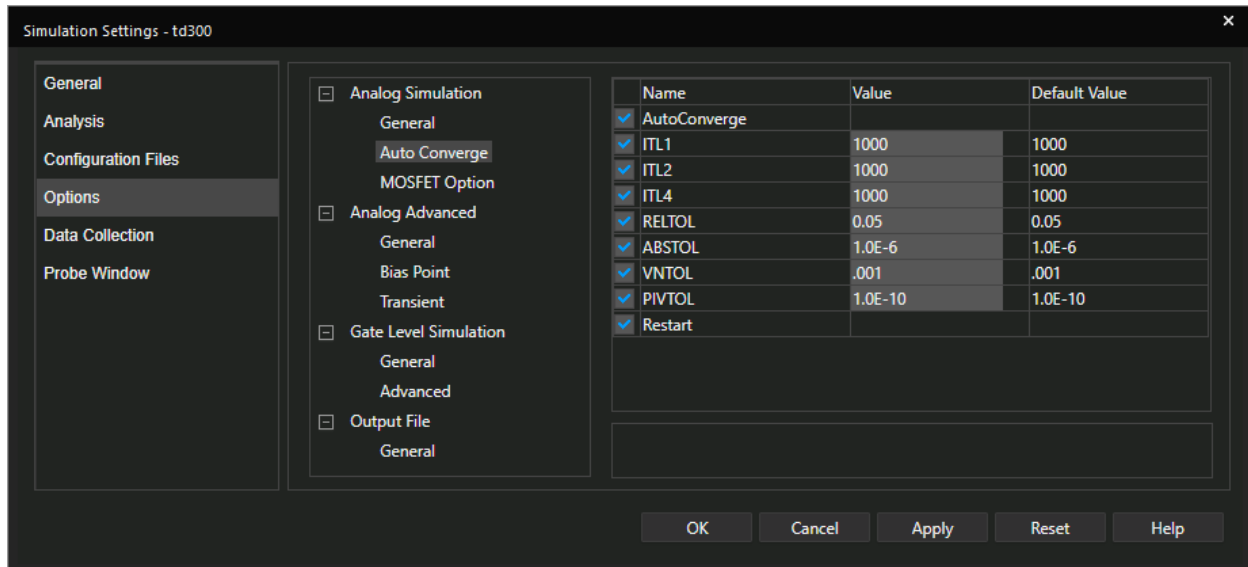

Figure 2-7: AutoConverge Settings
7. In the **Options** tab, select **AutoConverge** under **Analog Simulation** and enable the **AutoConverge** option, as shown in Figure 2-7. Click **OK** on the **AutoConverge Options** form.